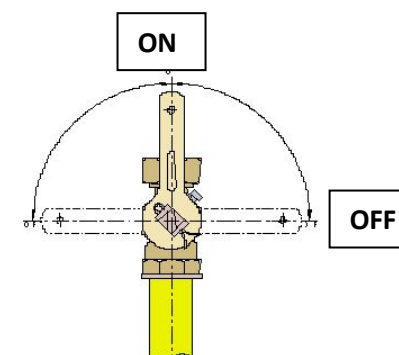

Figure 63 - Emergency Control Valve
7. You must fit any key or lever to move in the downward direction from the 'ON' position to the 'OFF' position. (Figure 63).